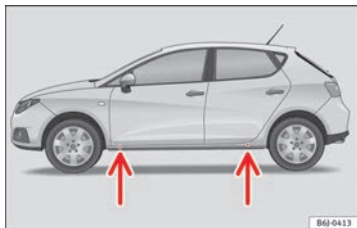

Fig. 149 Jack position points
- Locate the jacking point under the door sill closest to the punctured wheel ⇒ Fig. 149.
Recesses at the front and rear of the door sills mark the jacking points ⇒ Fig. 149. There is only one jacking point for each wheel. Do not fit the jack anywhere else.